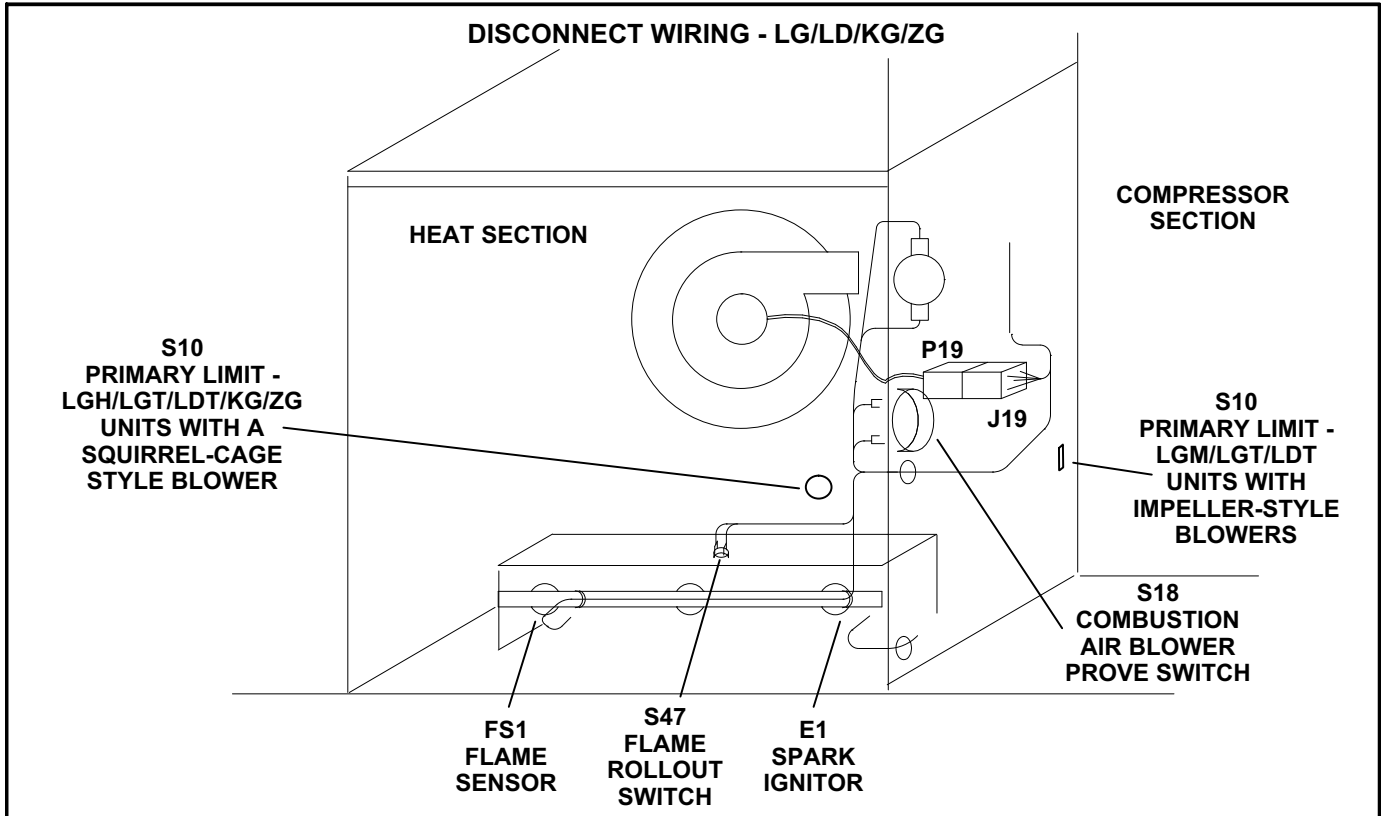

FIGURE 2
- 6- Disconnect P19 from J19. See figure 2.
- 7- Disconnect wiring to ignitor, flame sensor, combustion air blower prove switch, and flame rollout switch. On LG/LD/KG/ZG units, disconnect wiring to the primary limit. See figure 2. On LGM150 units, remove the primary limit.
- 8- Remove the two screws securing the combustion air blower prove switch. Discard the switch if tabs are broken. Retain the switch for reassembly if tabs are intact. See figure 2.
- 13- Remove J19 from the division panel between the heat and compressor sections. See figure 2.